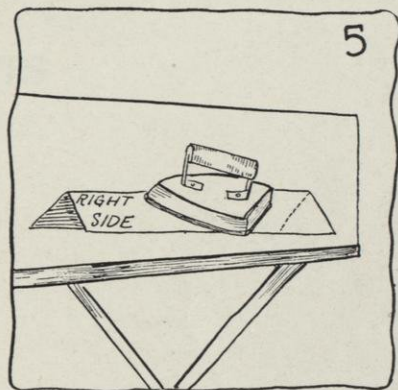

FIG. 5.
- (1) Place the right side of the material face down on the ironing board, with the cut edges parallel to the edge of the ironing board nearest to you.
- (2) Fold the back edge toward you.
- (3) Press the folded edge flat (see Figure 5).
- i. Place folds on the crown, as shown in Sections 4 a through c (4), (pages 207 and 208), always keeping the folded edge outside. Be sure that the side you pressed goes against the block.